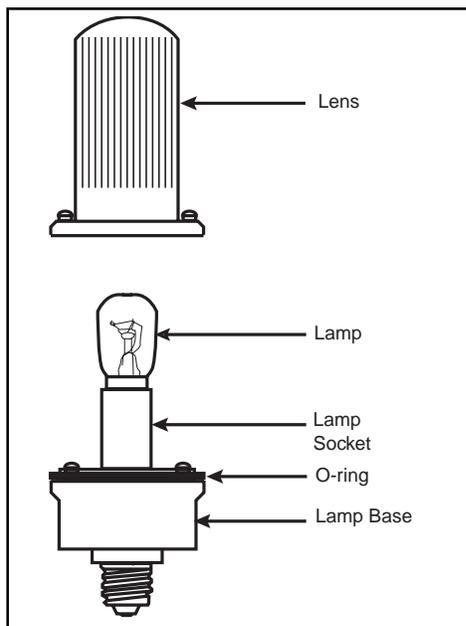

Figure 1. Beacon Assembly
2. Remove two screws from lens and remove lens as shown in Figure 1.
4. Insert replacement bulb (Table 1) into lamp socket (Figure 1), push down and turn clockwise until it locks into place.